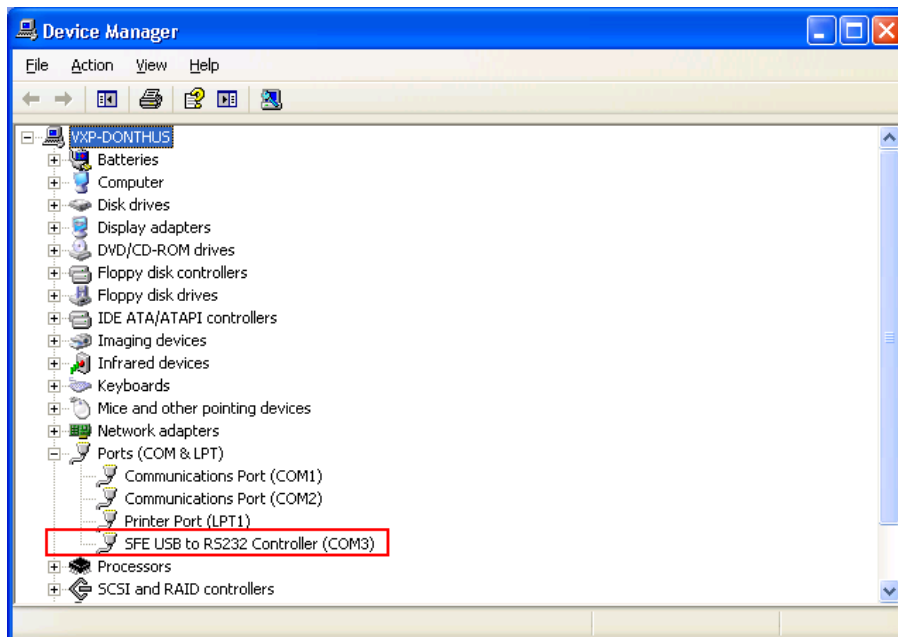

Figure 21 · Device Manager Listing SFE USB to RS232 Controller Drivers
2. If the SFE USB to RS232 Controller drivers are automatically detected (this can be verified in Device Manager), as shown in Figure 21, go to the next step. If not, follow Step 8 – Installing Drivers for the USB to RS232 Bridge to install drivers for the USB to RS232 Bridge.